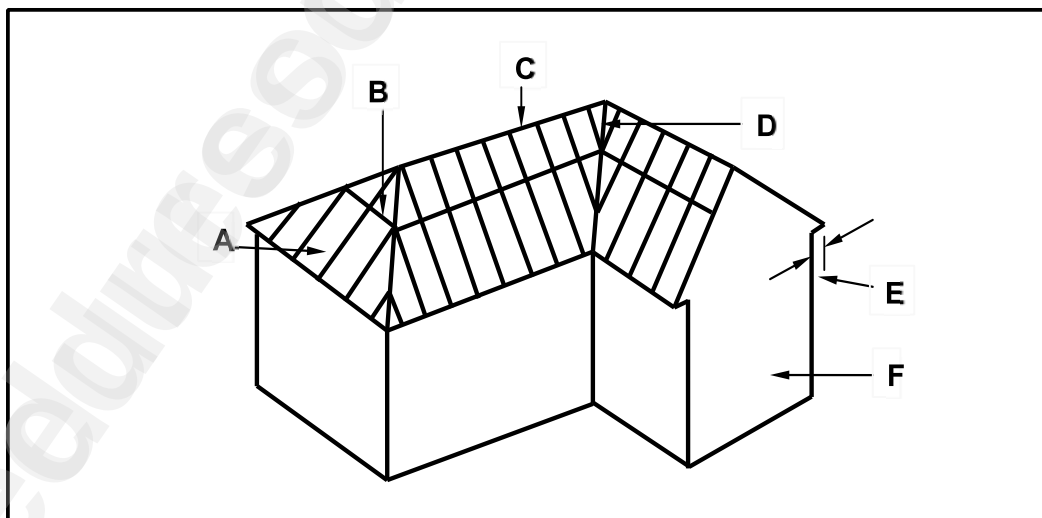

FIGURE 4.2
- 4.2 FIGURE 4.2 shows a pictorial view of a roof with a hipped end, a gable end and a valley. The roof will be covered with corrugated iron sheeting. Study the figure below and answer the questions that follow.